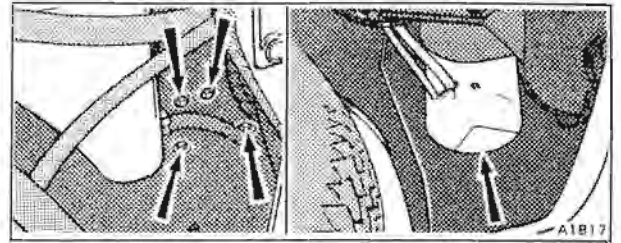

Fig. G2-4 Fuel evaporative control canister and mounting bracket setscrews.
1. Locate the emission control canister under the left-hand front wing (see fig. G2-4). Using the special pliers RH 8090 remove the securing clip from the canister end of the purge hose.